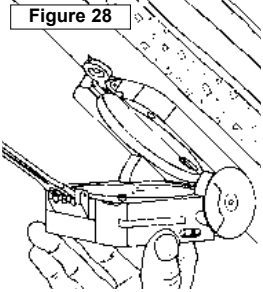

Figure 28
1. Place transit hinge next to the outcropping. (Fig 28)
1. With hinge next to outcropping and GEO transit level, measure the dip direction. (Fig 28)